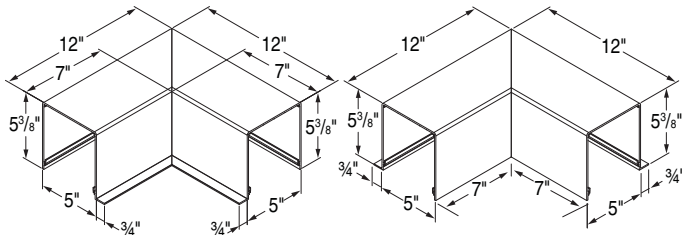

Figure 1
- ① Type "D" pockets come in 12' sections. Measure and cut the extrusions to the appropriate length. Don't forget to account for Corners and Endcaps in your measurements (see Fig. 1).